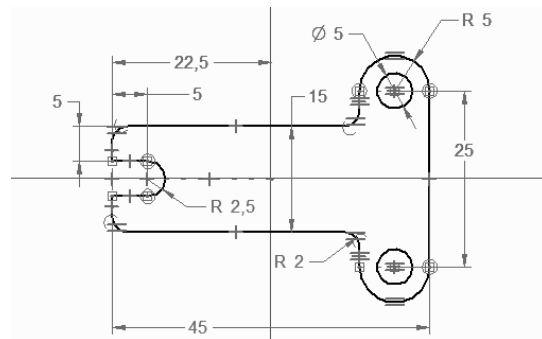

Figure 5-69 Dimensioned profile of the base feature
3. Add the required relationships and dimensions to the sketch, as shown in Figure 5-69.